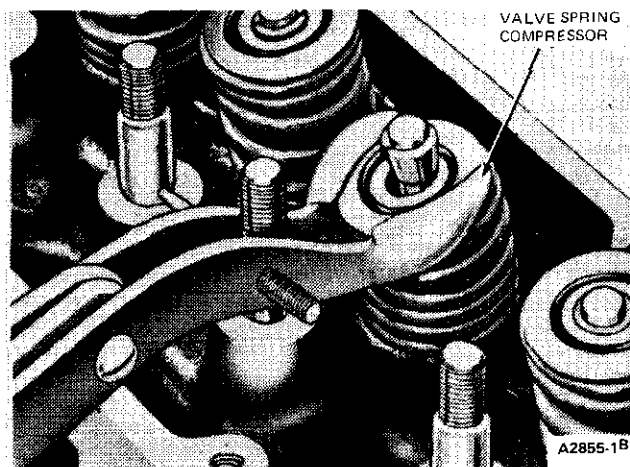

FIG. 45 Compressing Valve Spring—On Bench
4. Compress the valve springs (Fig. 45). Remove the spring retainer locks and release the spring.